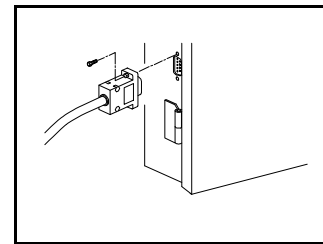

Figure 13
- b. Using the two screws provided, install the other end of the data cable to the interconnect box. See Figure 13.